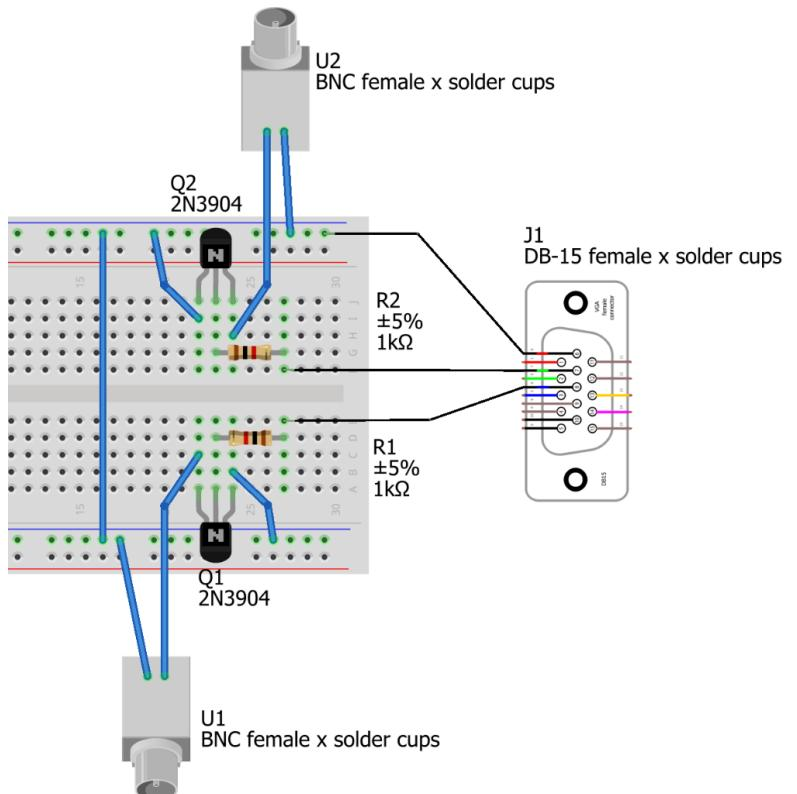
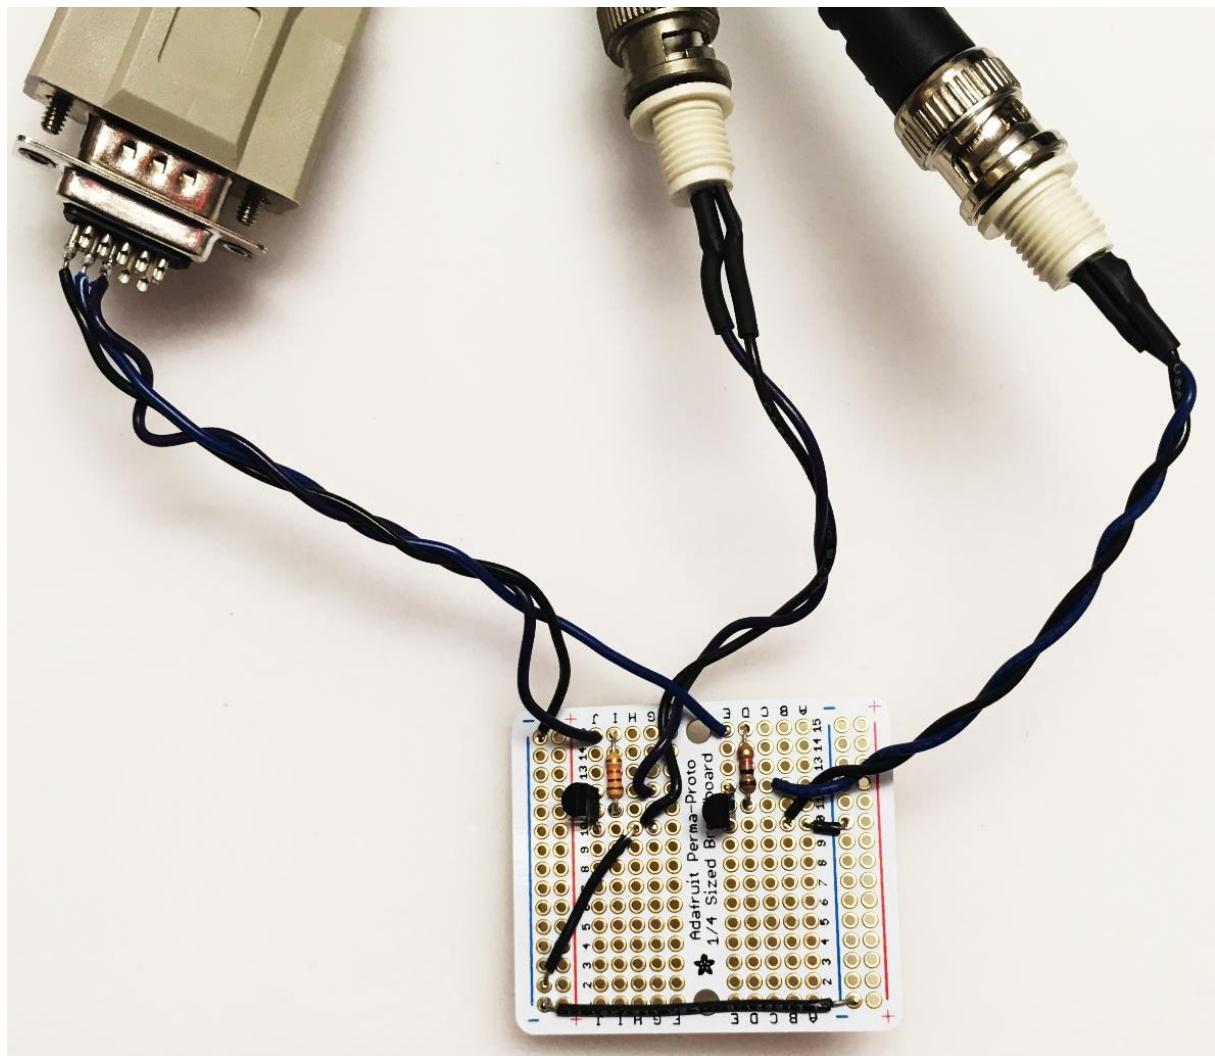

Figure 97 Camera trigger adapter circuit diagram
Figure 99 Camera trigger adapter circuit, with cables attached
- Solder the transistors, resistors, and connector leads onto the protoboard as shown in Figure 98 and Figure 97, and as also described in the net list below. See Figure 99 for the finished product.